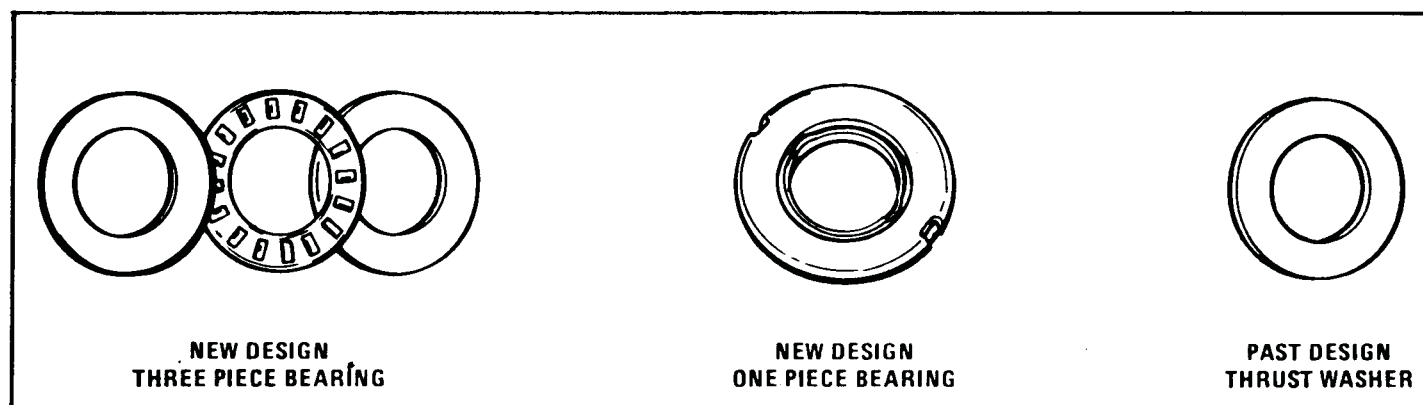

Figure 6
Beginning mid-March, 1981, THM 125 transaxles were built with a new design governor cover bearing in place of the past design thrust washer. This bearing will be one of two designs, (1) a three piece thrust bearing assembly or (2) a one piece bearing (See Figure 6). For service, only the three piece bearing will be used.